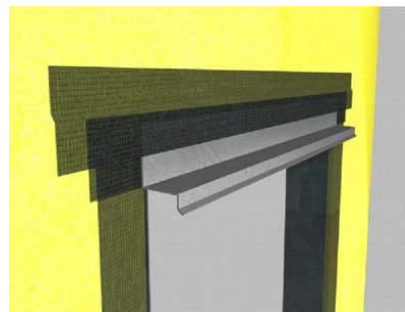

Figure 7
- Cut AquaFlash Mesh to proper length [flashing plus 102 mm (4 in) extending 51 mm (2 in) beyond each end of flashing] - Figure 7.